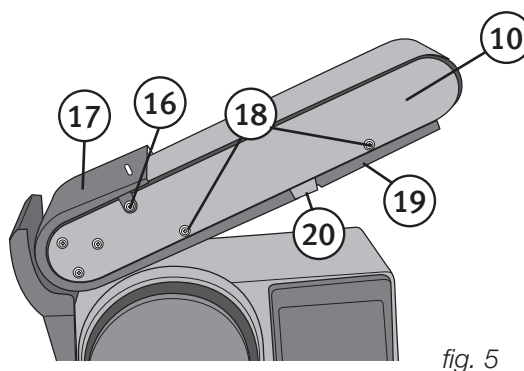

fig. 5
4. Remove the two screws ((16) in fig. 5) on both sides of the belt frame (10). Remove the upper guard ((17) in fig. 5).
5. Remove the four screws ((18) in fig. 5) on both sides of the belt frame (10). Remove the lower guard ((19) in fig. 5).
6. Remove the rubber snubber ((20) in fig. 5).